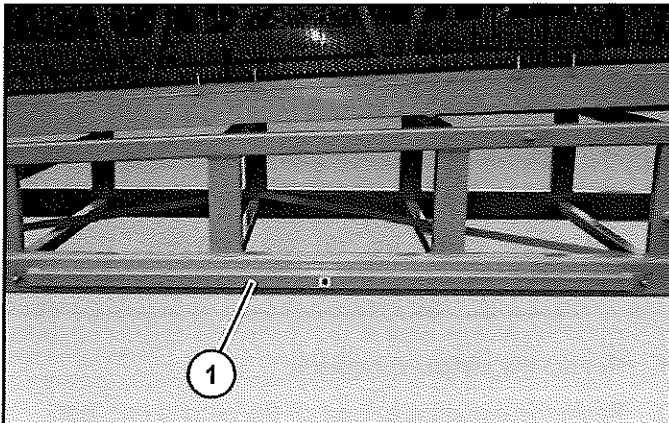
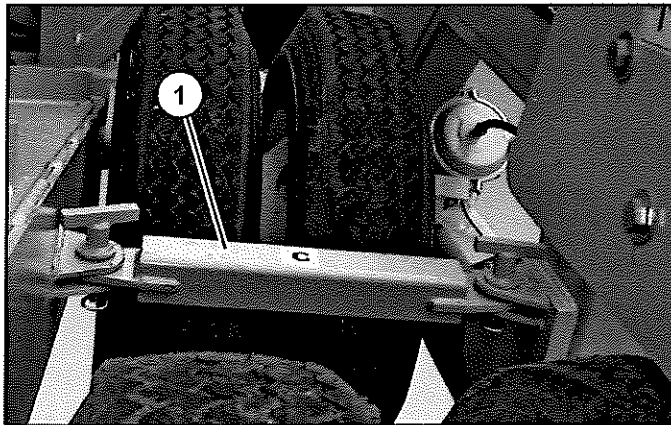
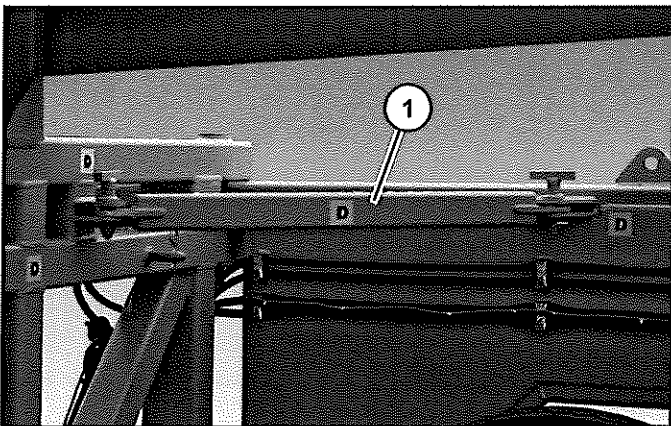

Figure 93
Figure 94
Figure 95
9. Remove bars, B (Item 1) (Figure 93), C (Item 1) (Figure 94), and D (Item 1) (Figure 95) from operating position and pin in transport position. Place the four A bars in transport position on the side of the conveyor body.